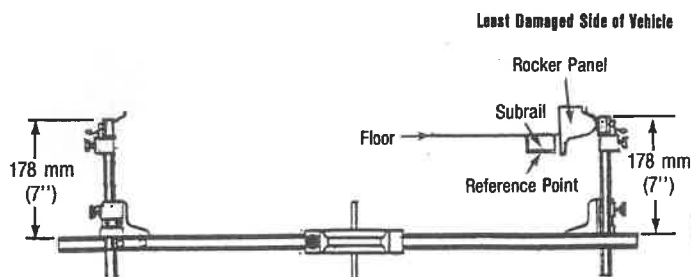

Figure IV-18
- 5) Raise the bar on the most damaged side of the vehicle 25 mm (1 inch) and tighten the thumb screw on the scale housing. (See Figure IV-18.)